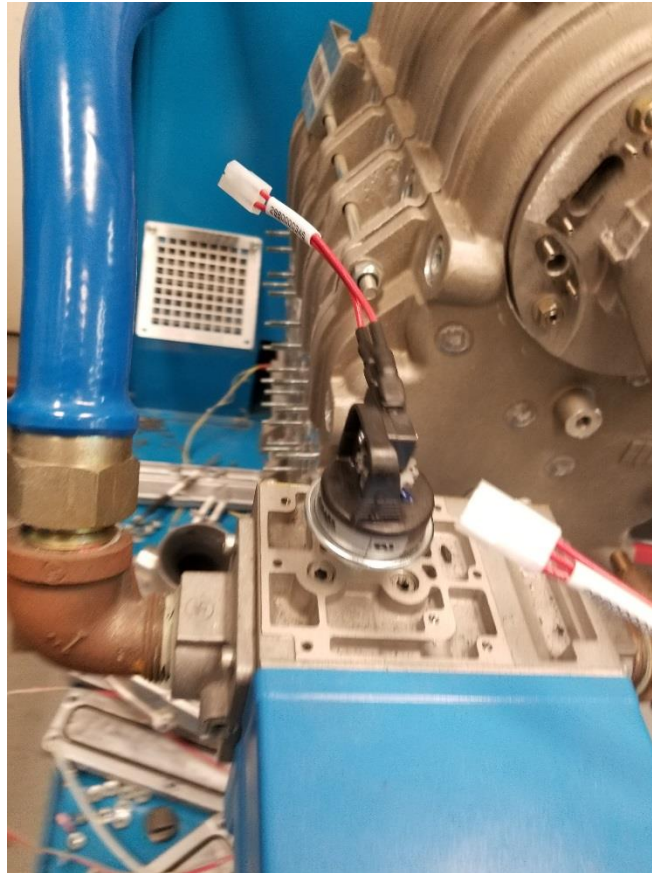

Figure 10
13. Install low gas pressure switch shown in figure 10.